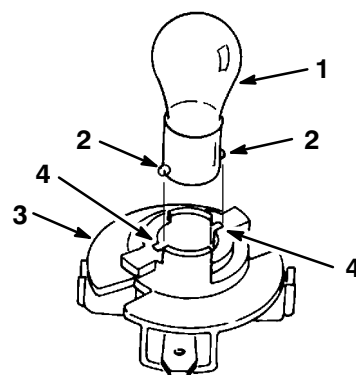

Figure 51
5. Push and rotate the bulb counterclockwise until it stops (approx. 1/4 turn) and remove the bulb from the bulb holder (Fig. 51).
1. The bulb has metal pins on the side of its base. Align the pins with the slots in the bulb holder and insert the base into the holder (Fig. 51). Push and rotate the bulb clockwise until it stops.